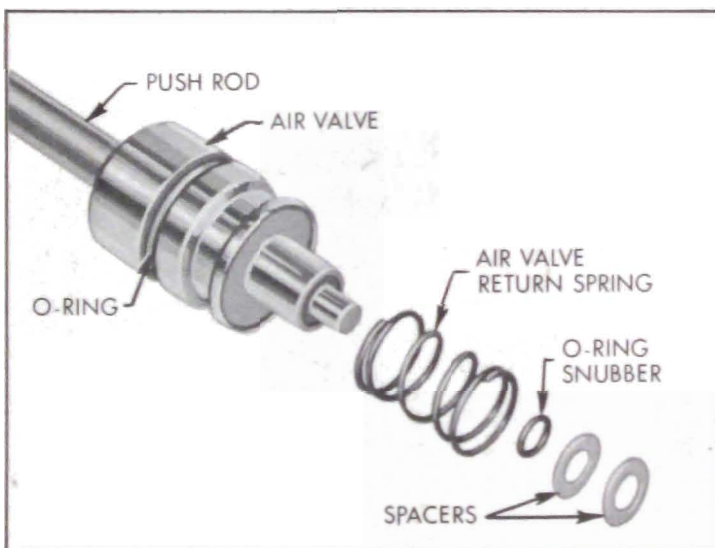

Figure 9-28—Air Valve and Related Parts
17. If pin is flush with body or sticks out no more than .010 inch, spacers are correct. If pin is high or low, add or remove spacers respectively until within limits. When spacers are correct, pull out gauge and set O-ring snubber and spacers on air valve. Then set air valve return spring over end of air valve. Install new O-ring in narrow groove of air valve and lubricate O.D. of air valve and O-ring with Dynaflo oil. See figure 9-28.